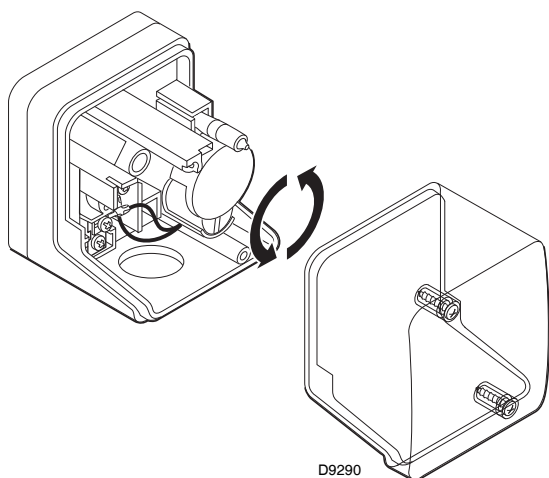

Fig. 33
- Adjust the minimum gas pressure (Fig. 33) switch to the start of the scale.